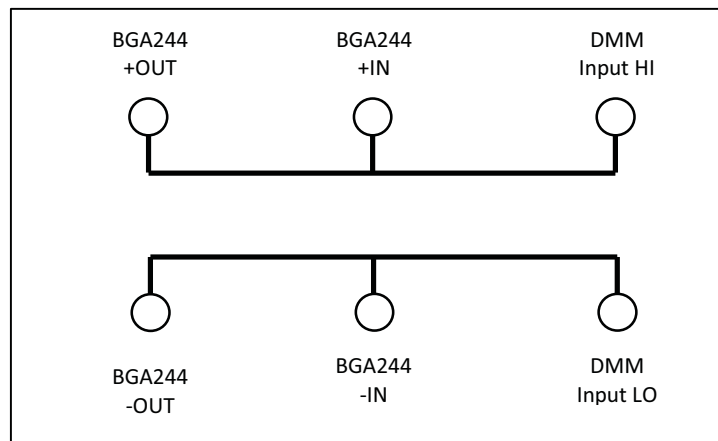

FIGURE 35: SETUP FOR ANALOG IO VOLTAGE TEST
1. Connect Analog Output 1, Analog Input 1 (C7) and the DMM HI input as shown in Figure 35. Set the DMM to measure DC Volts at maximum resolution. Select auto range.